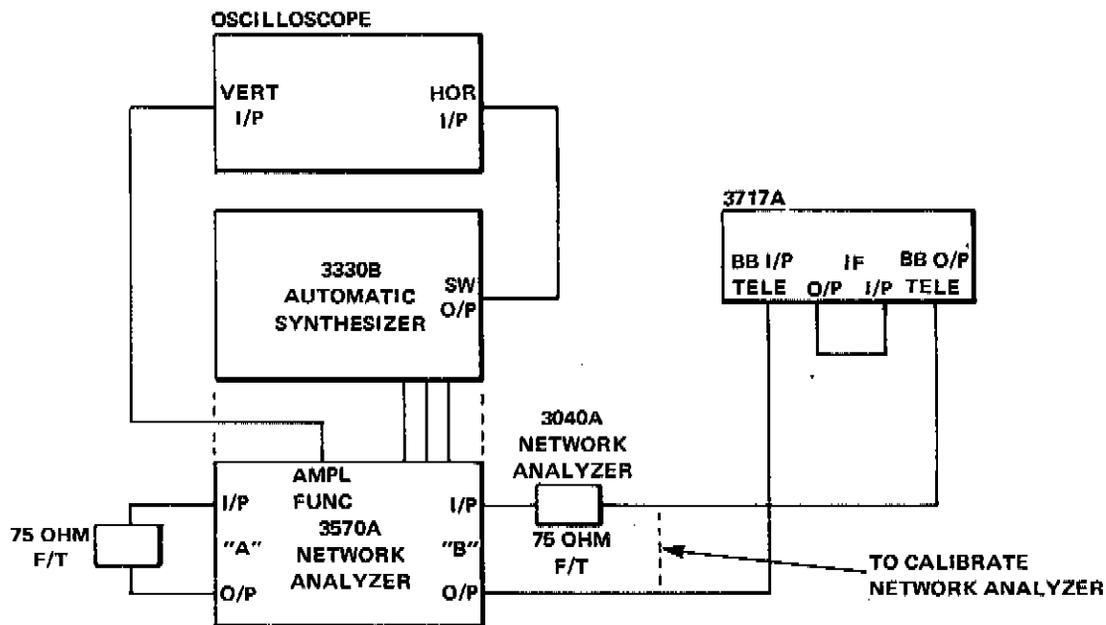

Figure 5-23 Optimization Setup 1
1. Connect the equipment as shown in Figure 5-23.